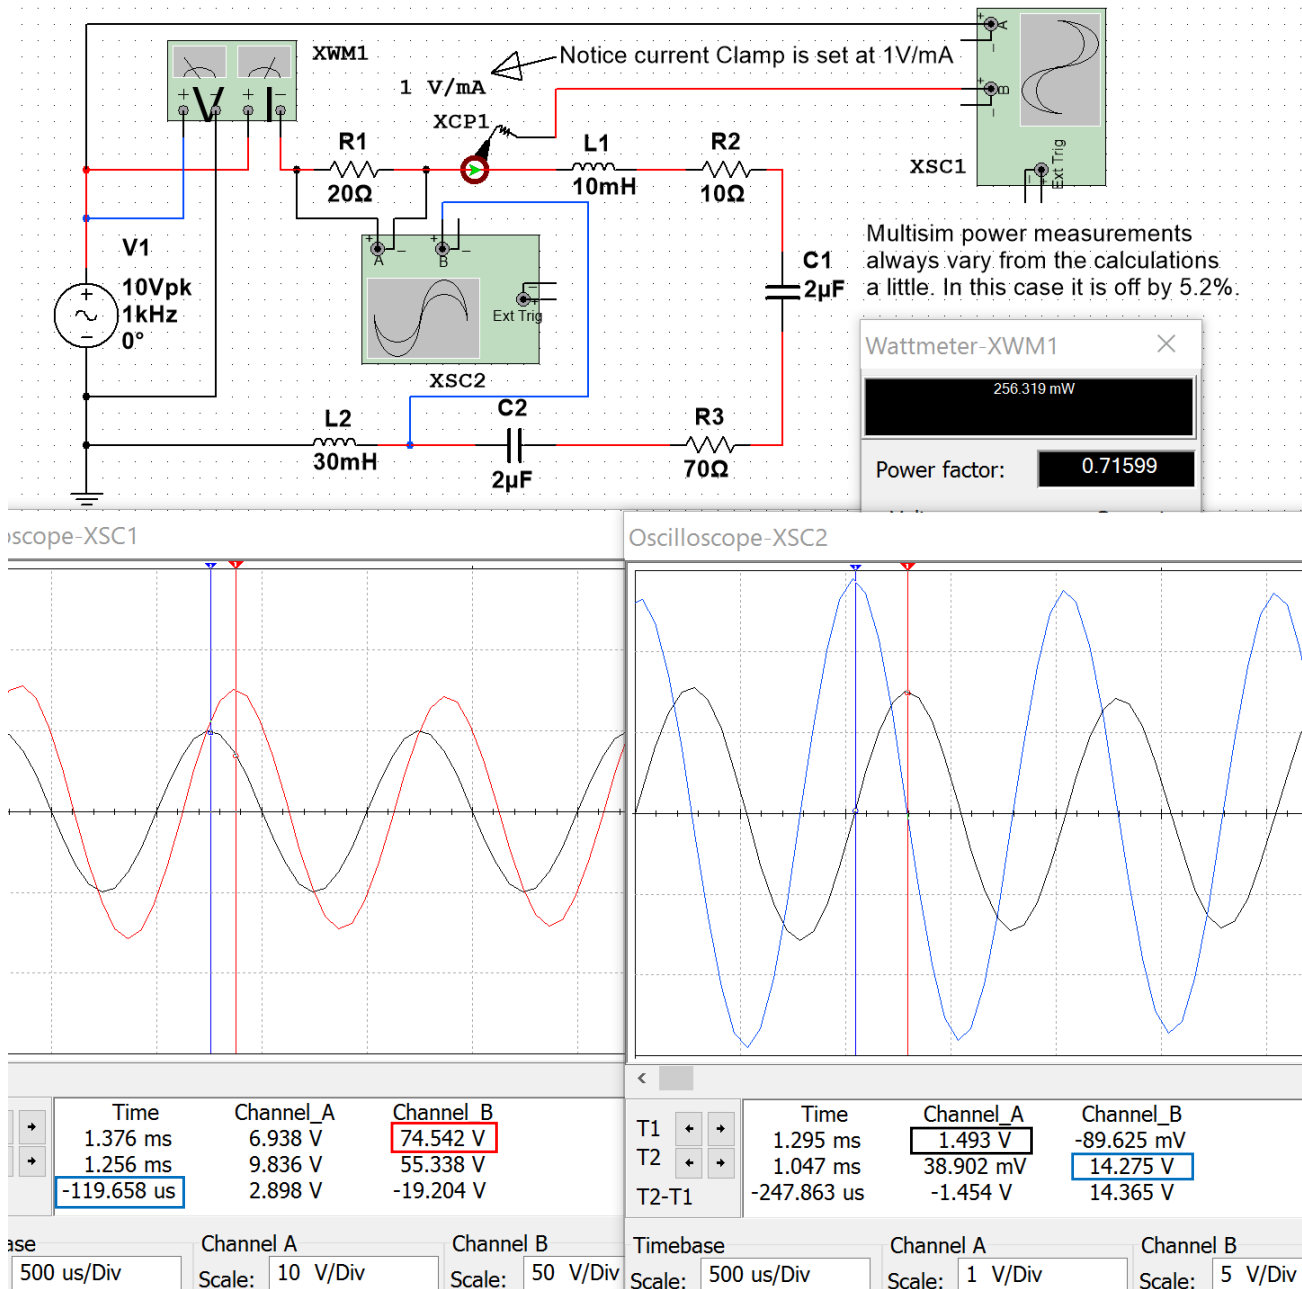

Figure 3.21: Circuit for Example 3.9
- Figure 3.21 shows V_{R1} and V_{L2} are 90° out of phase. Calculations agree $\rightarrow \theta_{VL2} - \theta_{VR1} = 47.33^\circ - -42.67^\circ = 90^\circ$